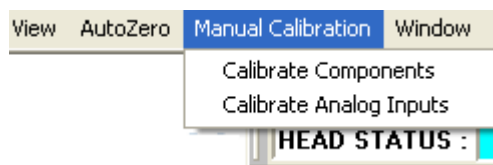

Figure 6-2 Manual Calibration Drop Down list
12. On the TEST screen go to MANUAL CALIBRATION on the main menu and select CALIBRATE COMPONENTS from the drop-down menu (see *Figure 6-2*). If the manual calibration choice is greyed out it is because *operator* access level is selected. Change to *Engineer* level and continue.